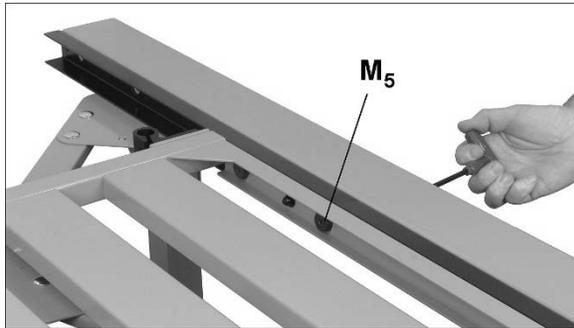

Figure 7-17
11. Slide table forward and use the provided T-handle wrench through the holes in inner rail to loosen bearing screw. See Figure 7-17. Turn eccentric nut ( $M_5$ ) until bearing is just contacting ceiling of rail channel. Do not adjust bearing too tightly to rail. Tighten bearing screw.